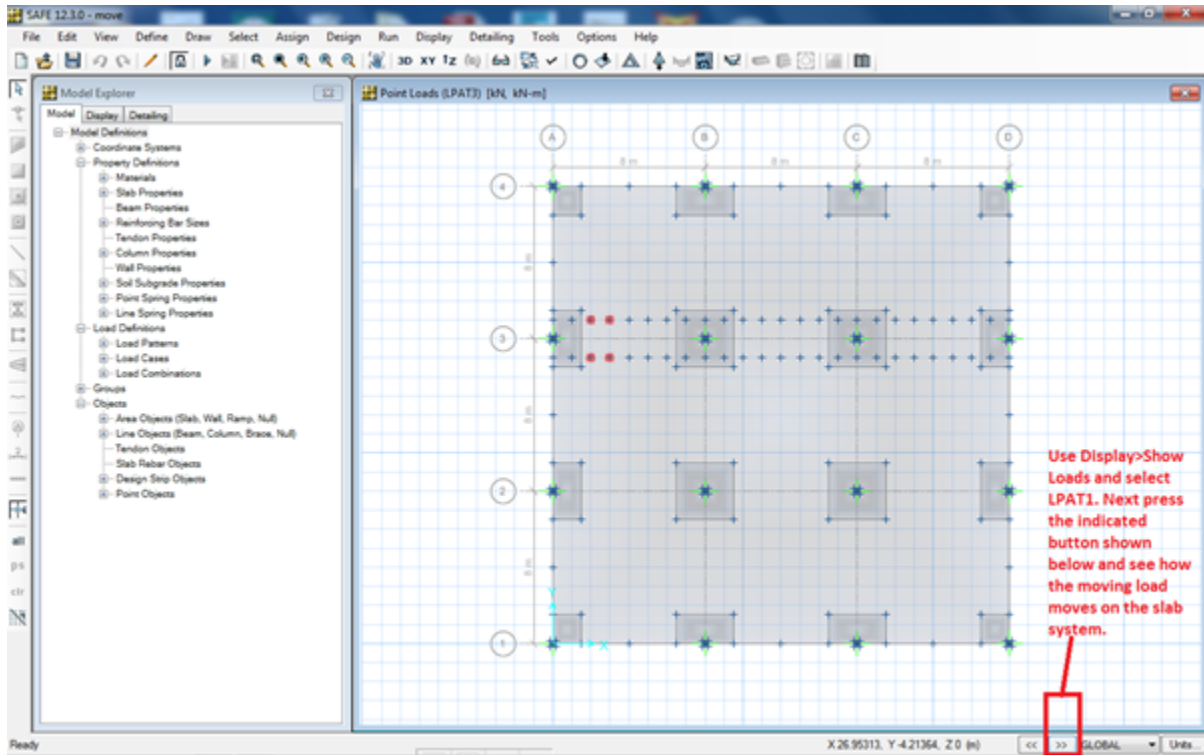

Figure 1 - Define nodes where vehicle response is to be computed
**Answer:** To simulate a four-wheel vehicle load traveling along design strip CSA3, two rows of joints are created. Assuming the vehicle travels the 24m length at a rate of 1 m/sec, and remains centered along the layout line, 25 pairs of joints and 24 load patterns represent the possible loading configurations taken at 1sec time steps. Depending on the length of the vehicle, two pairs of joints will be loaded at any given time step, as shown in Figure 1: